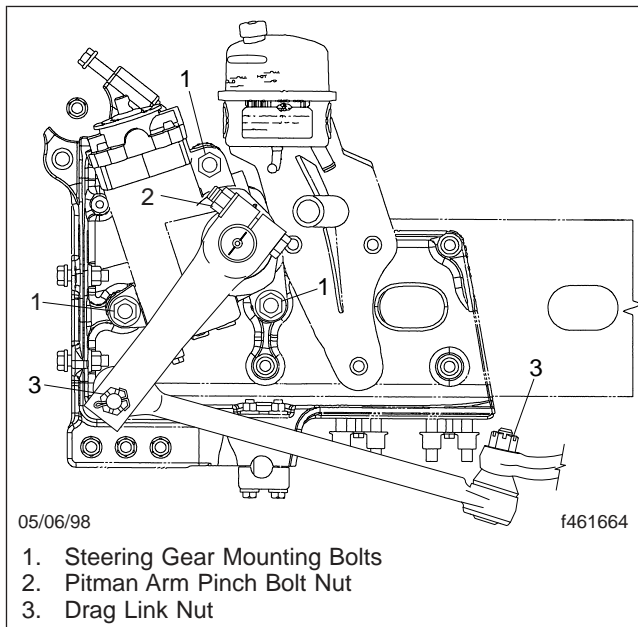

Fig. 23.11, Integral Steering Gear Fasteners
2.1 Inspect tie rods, steering arms, and the drag link for signs of looseness (i.e., shiny spots or rust tracks). See **Fig. 23.11**.